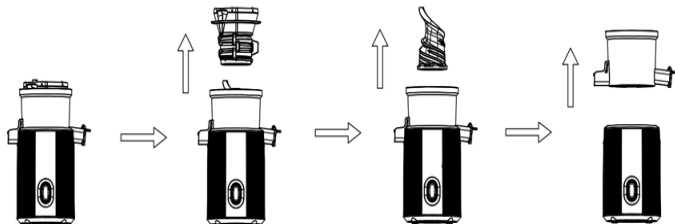

Fig.1
2. Firstly upwards remove the strainer from the juicing jar, and then remove the grinding head from the strainer upwards, after it, remove the juicing jar from the motor unit (see Fig.1). Finally, immerse all the detachable parts and accessories in warm soapy water and then rinse them and dry. But never immerse the motor unit in water for cleaning to prevent the risk of electric shock.